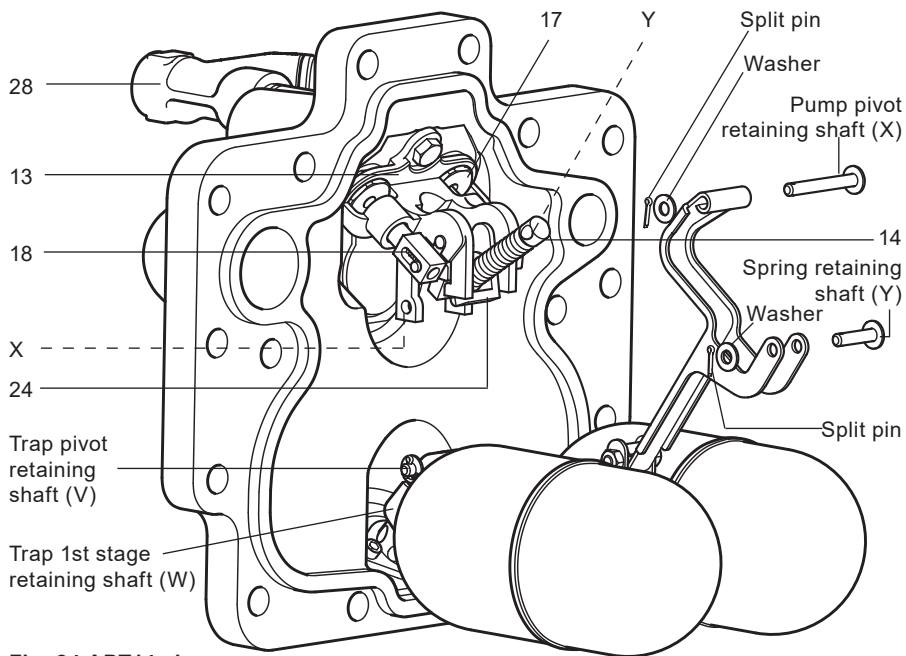
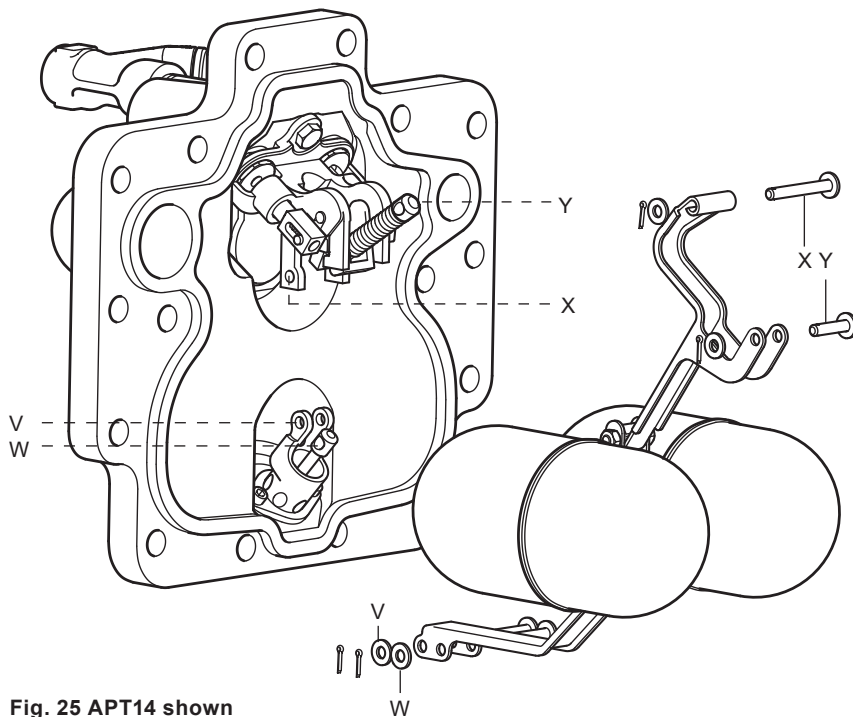

Fig. 24 APT14 shown
Fig. 25 APT14 shown
3. Remove a split pin and washer from one side of the spring retaining shaft (Y) (See Figure 24).
4. Remove a split pin and washer from one side of pump pivot retaining shaft (X).
5. Carefully slide the shafts out from their respective positions observing the orientation of the spring and actuator arm (item 14, 24) within the pump bracket (item 13) as these will need to be refitted later.
6. Remove a split pin and washer from one side of the trap 1st stage valve retaining shaft (W).
7. Remove a split pin and washer from one side of the trap pivot retaining shaft (V).
10. It is easier to fit the replacement shafts in the following sequence:- (See Figure 25).
**Y. Spring retainer** ..... shaft length 30 mm for both APT14, APT14HC and APT14SHC leaving the spring retaining shaft until after the spring and actuator arm have been correctly aligned and located within the slot of the pump bracket (item 13).
11. When all the shafts have been secured using new split pins and washers, move the floats to their upper and lower limits to ensure the mechanism operates smoothly and the spring and actuator arm snaps over to operate the motive steam inlet and exhaust valves (items 17, 18).
14. Carefully reconnect the motive steam supply and the exhaust lines to the connections marked (S) and (E). The APT14, APT14HC or APT14SHC is now ready to recommission.
15. Make sure that the Spirax Sarco motive supply strainer (with 100 mesh screen) is reinstated to the motive supply connection (item 28, Figure 24).
3. Carefully fit a new gasket (item 2) into the existing body.
4. Remove split pin, washer and shaft from the trap pivot (V) (See Figure 25).
5. Remove split pin, washer and shaft from the trap 1st stage valve (W).
6. The floats and levers (items 5, 6 ,7) can now be swung out of the way leaving access to the trap and check valve assembly.
7. Using the 4 mm Allen key unscrew the two M5 cap screws (item 21).